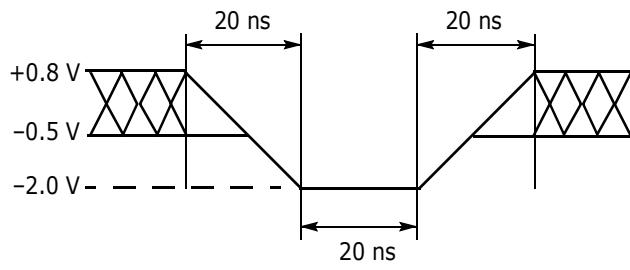
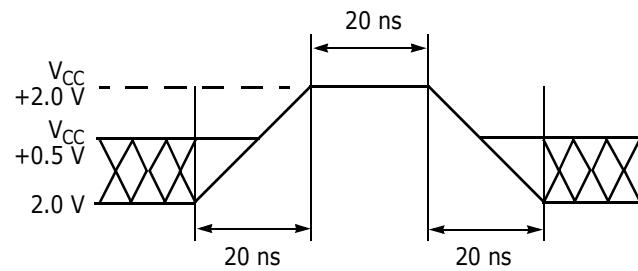

Figure 8. Maximum Negative Overshoot Waveform
Figure 9. Maximum Positive Overshoot Waveform
1. Minimum DC voltage on input or I/O pins is -0.5 V. During voltage transitions, input or I/O pins may overshoot V_{SS} to -2.0 V for periods of up to 20 ns. Maximum DC voltage on input or I/O pins is V_{CC} +0.5 V. See Figure 8. During voltage transitions, input or I/O pins may overshoot to V_{CC} +2.0 V for periods up to 20 ns. See Figure 9.
2. Minimum DC input voltage on pins A9, OE#, RESET#, and WP#/ACC is -0.5 V. During voltage transitions, A9, OE#, WP#/ACC, and RESET# may overshoot V_{SS} to -2.0 V for periods of up to 20 ns. See Figure 8. Maximum DC input voltage on pin A9 is +12.5 V which may overshoot to +14.0 V for periods up to 20 ns. Maximum DC input voltage on WP#/ACC is +9.5 V which may overshoot to +12.0 V for periods up to 20 ns.